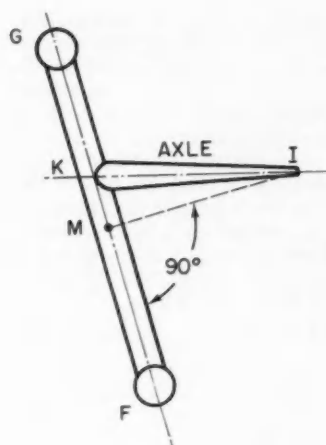

Fig. 4 — Normal view of kingpin and axle.
With the ball joints F and G located, the position of the kingpin axis in space was also known. In this particular problem, the axle and kingpin intersect at an angle which is somewhat different from 90 deg (Fig. 4). The point K, at which the centerline of the axle intersects the kingpin axis, and the point M, at which a perpendicular from the wheel center intersects the kingpin axis, are always located fixed distances from the ends of the kingpin. A set of linear equations describing this relationship was easily solved for the positions of points K and M, once the location of the kingpin was known. A linear equation was written which related the location of the wheel center (I) with respect to two of the three coordinate axes to the steering angle and the position of point K. A second linear equation described the fact that point I is located in a plane which is perpendicular to the kingpin axis at point M. Point I is always a fixed distance from point G, and this relationship was described by a third, nonlinear, equation. Simultaneous solution of the three equations located point I.